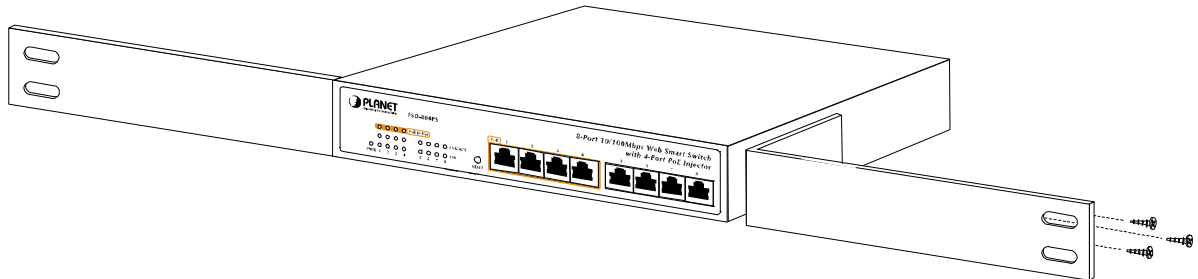

Figure 2-5 Attaching the brackets to the Switch.
Step2: Attach a rack-mount bracket to each side of the Switch with supplied screws attached to the package. Figure 2-5 shows how to attach brackets to one side of the Switch.